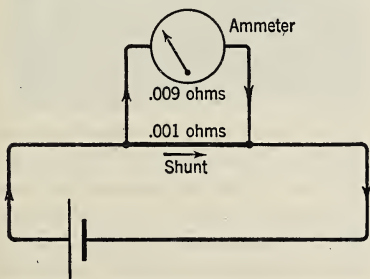

FIG. 685. A shunt across an ammeter.
12. Suppose that an ammeter whose resistance is 0.009 ohm can carry safely 10 amperes. If it reads 10 amperes when connected in series, what will be its reading after a shunt of 0.001 ohm resistance has been connected across its terminals as in Fig. 685? How strong a current can then be used with the ammeter?